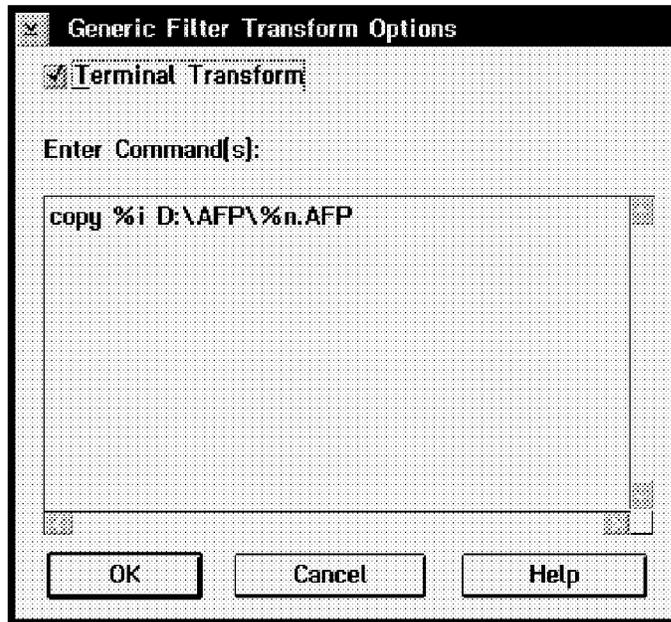

Figure 186. Generic Filter Transform Options Window
4. The options window for the Generic Transform Filter shown in Figure 186 will open. Here is where we'll enter the operations we want to execute. In this example, we're entering the following operation: `copy %i D:\AFP\%n.AFP`. What this operation will do is to copy the input to this transform (the `%i` variable) to a file in the `D:\AFP` directory, with the same file name (the `%n` variable) and with a file extension of `AFP`. Notice the Terminal Transform box on the top of the screen. What this box means is, whenever PSF/2 executes this transform, it will not go any further, even if there are other transforms in the transform sequence after this. In our example, we want to copy the AFP file and stop; so we'll check this box. After entering all operations, select **OK**.